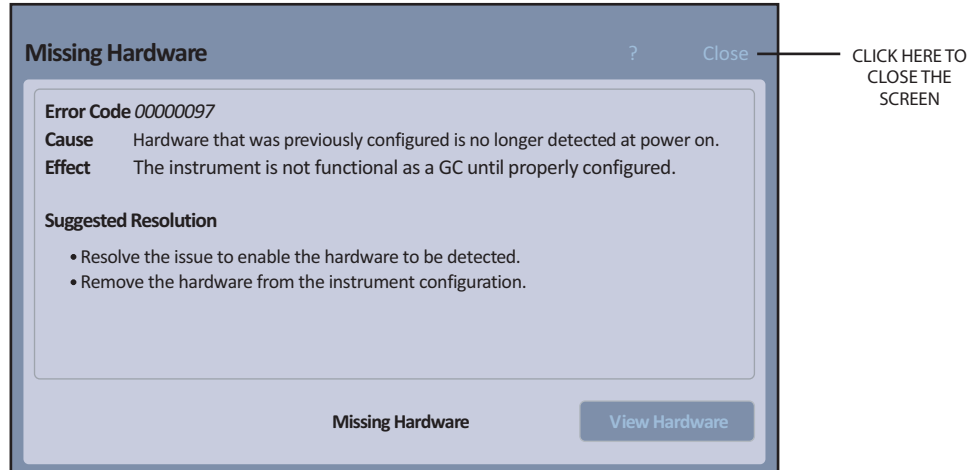
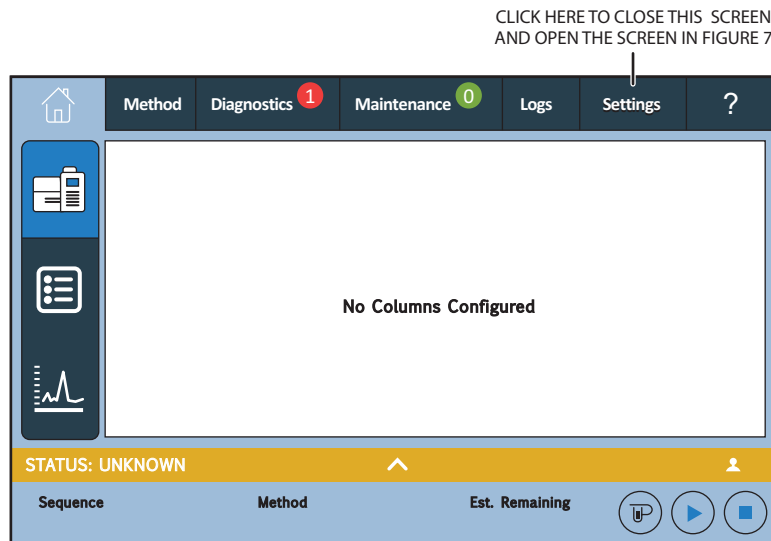

Figure 4:
Figure 5: Settings screen
5. If the screen in **Figure 4** appears, click “Close” on the upper right corner to close this screen and open the screen in **Figure 5**.